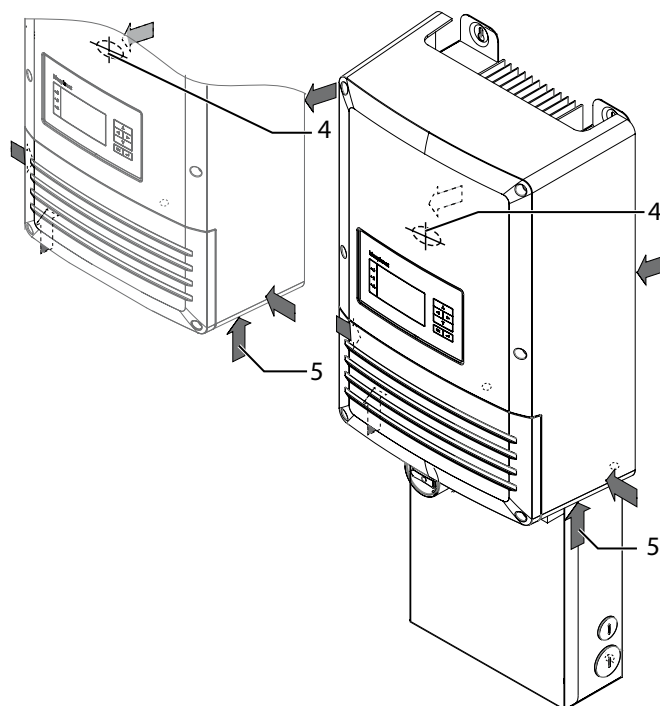

Figure 8: Lift inverter
6. Lift the inverter from the provided areas (see Figure 8).